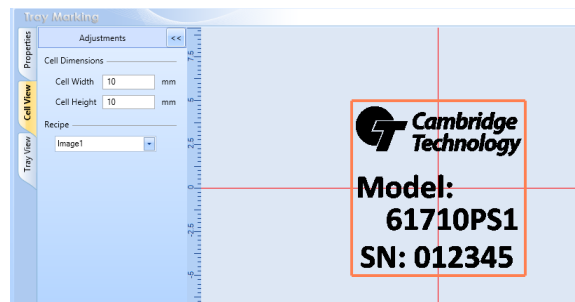

Figure 4 - Cell Dimension
- **Dimension:** can be used to adjust the dimensions of the cell. This can be useful if the marking detail is larger than cell size. In addition, it allows the user to choose an image if there is more than one image in the Drawing Canvas as seen **Figure 4 - Cell Dimension** (below)